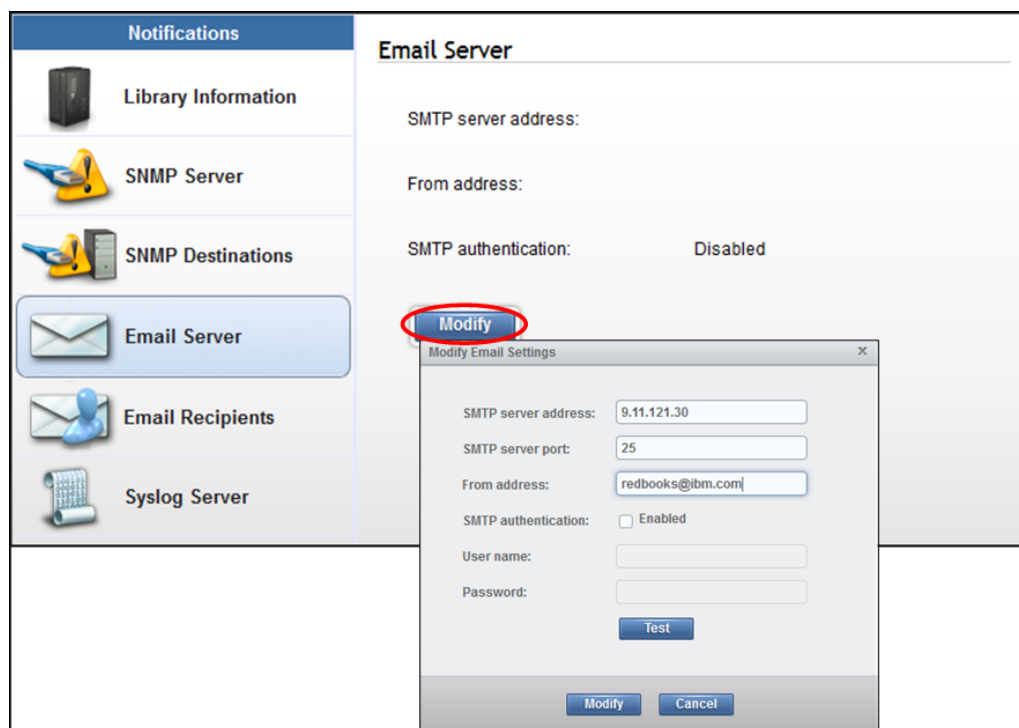

Figure 4-29 Email Server notifications page
2. Enable **SMTP authentication**, as shown in Figure 4-29 on page 220.